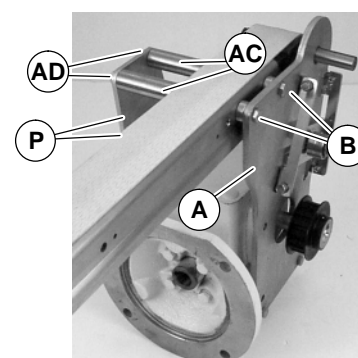

Figure 5
NOTE: 102mm and wider mounting assembly shown. 51mm and 76mm wide mounting assemblies include two spacer (AC of Figure 5) and two long M6 screws (AD).
- 4b. For 51mm to 76mm wide conveyors, loosen (but do not remove) screws (P of Figure 5). Attach bottom mount assembly (A) to conveyor with two screws (B), spacer tubes (AC) and screws (AD). Tighten screws (B), (AD) and (P) to 10.4 Nm.